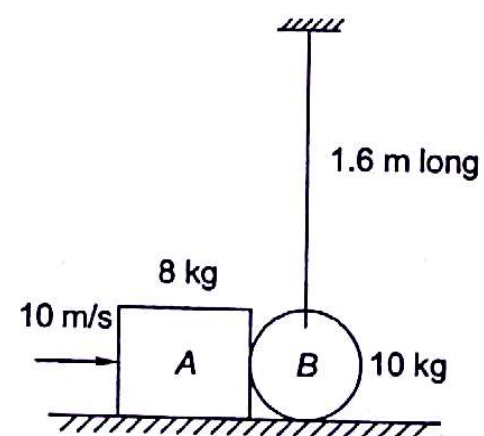

Fig. 21.13
- 21.3 A 8 kg block A moves on a rough horizontal floor and hits a sphere of mass 10 kg and suspended by a string 1.6 m long as shown in the Fig. 21.13. The coefficient of friction between block A and floor is 0.20. The coefficient of restitution e for impact between block and sphere is 0.70. If the duration of impact is 0.02 second, determine impulsive force.